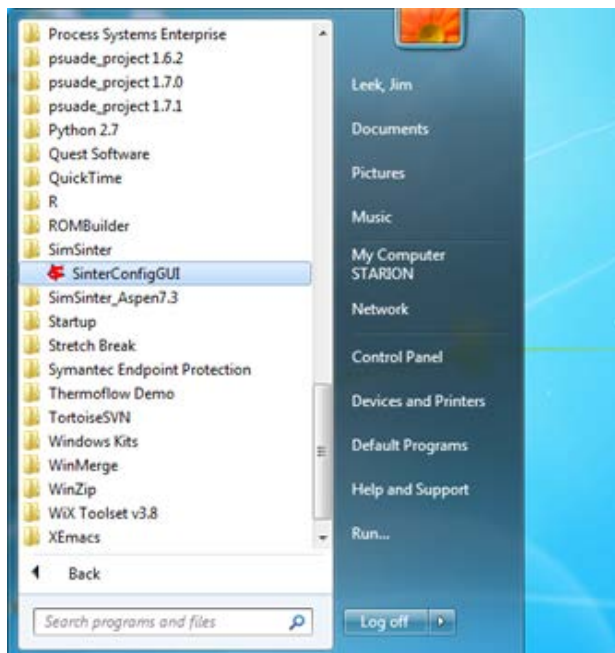

Figure 15: Start menu, SinterConfigGUI.
2. Initially the SimSinter Configuration File Builder splash screen displays, as shown in Figure 15. Either click the “splash screen” to proceed, or wait 10 seconds for the screen to close automatically.